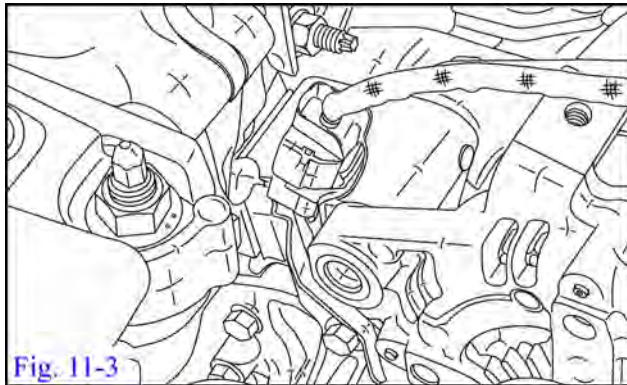

Fig. 11-3
- (e) Loosen, but do not remove, the CPS connector bracket from engine (10mm wrench) figure 11-3. Rotate the bracket toward the engine so the connector is facing up at the 12 o'clock position. Allow slight clearance between the engine and the connector. Tighten metal bracket while holding the bracket in place. **Torque to 80 in-lbs.**
- (f) Remove alternator pivot bolt see figure 11-3.& 11-4 (14mm Socket).